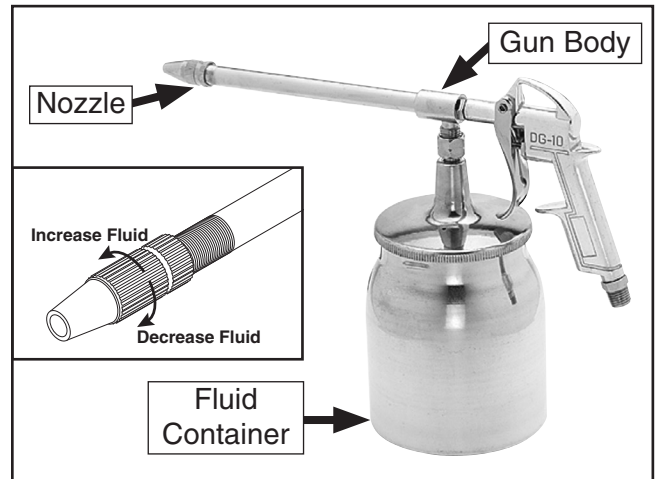

Figure 1. Model G5357.
6. Adjust the nozzle, as shown in **Figure 1**, to adjust the fluid amount. Lock the adjustment by tightening the rear section of the nozzle towards the front.
4. Connect the engine cleaning gun (**Figure 1**) to an air supply set at 60 PSI.